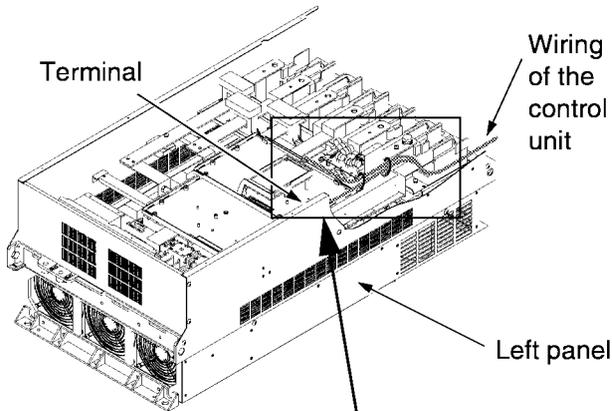

Figure 2-3-14 The wiring route of the control unit
1. As shown in Fig. 2-3-14, pull out the cables along the left panel